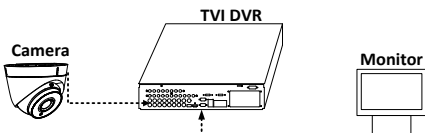

Figure 3-1 Connection
1. Connect the camera with the TVI DVR, and the monitor, shown as the figure 3-1.